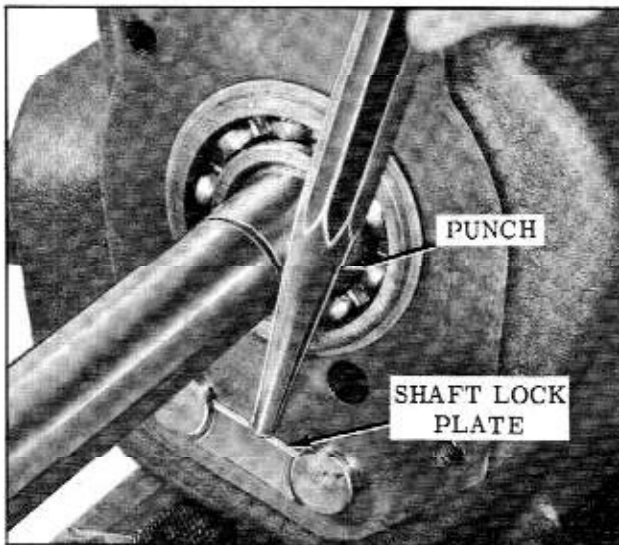

Fig. 10-7 Removing Rear Lock Plate
6. Remove the countershaft and reverse idler gear shaft lock plate by tapping it out of shaft grooves with a punch. (Fig. 10-7)